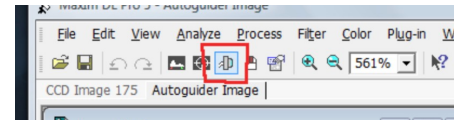

Figure 2: Camera Control
- a. Click on the little camera icon (Figure 2) in the menubar to bring up the camera controls. If you hover the mouse over it, it says "Toggle Camera Control". The camera-control window will open.